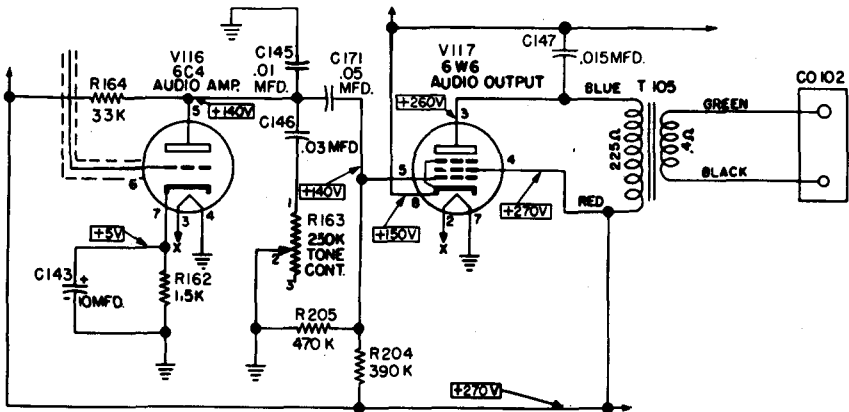

Fig. 34 - Crosley
**Preventing oscillation in audio section (see Fig. 34).**